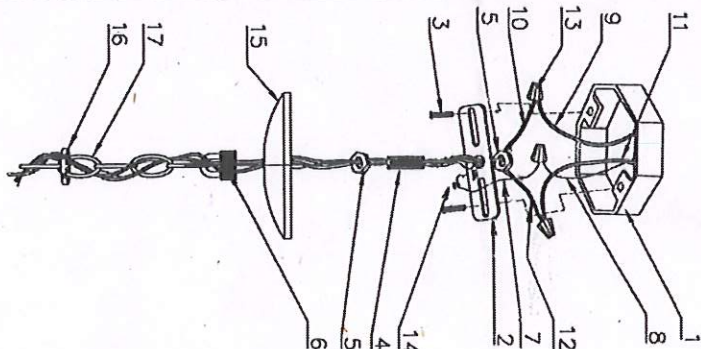

FIG. 1
1. Take the parts out of the mounting package. Screw the end of the NIPPLE (4) into the center hole of the MOUNTING BRACKET (2) and thread both 1/8" IPS HEX NUTS (5) several turns onto each end of the NIPPLE (4) but do not tighten the 1/8" IPS HEX NUTS (5). Pull the SUPPLY WIRES (9 & 11) and the SUPPLY GROUND WIRE (8) out from the OUTLET BOX (1) and attach the MOUNTING BRACKET (2) assembly to the OUTLET BOX (1) using the slotted holes of the MOUNTING BRACKET (2) and the MOUNTING SCREWS (3) provided. (See Fig. 1)
2. Thread the SCREW COLLAR LOOP (6) onto the bottom end of the NIPPLE (4). Place the CANOPY (15) over the OUTLET BOX (1) and adjust the SCREW COLLAR LOOP (6) and NIPPLE (4) until the midpoint of the outside threads on the SCREW COLLAR LOOP (6) is centered (aligned) with the surface of the CANOPY (15). Remove the CANOPY (15) and tighten both 1/8" IPS HEX NUTS (5) down on the MOUNTING BRACKET (2) and the SCREW COLLAR LOOP (6). (See Fig. 1)
3. Thread the FIXTURE LOOP (18) onto the NIPPLE (19) till tight. Thread the NIPPLE (26) onto the COUPLING (25), slide the PIPING (27), COVER (28), TOP RESIN FONT (29), JUNCTION BOX (30), COVER (32), BOTTOM RESIN FONT (33) over the NIPPLE (26) in place, secure with the FINAL (34).
4. Open up the end links of the CHAIN (17) and attach one end of the CHAIN (17) onto the FIXTURE LOOP (18). Slide the THREADED RING (16) and the CANOPY (15) onto the CHAIN (17) (in that order) and attach the other end of the CHAIN (17) to the SCREW COLLAR LOOP (6). Close the ends of the chain links. (See Fig. 1 and 2)
5. Unravel the fixture lead wires (10 and 12) and FIXTURE GROUND WIRE (7) and thread them through every other link of the CHAIN (17) starting with the chain link attached to the FIXTURE LOOP (18). Feed the fixture lead wires (10 and 12) and FIXTURE GROUND WIRE (7) through the SCREW COLLAR LOOP (6) and NIPPLE (4) assembly. Pull the fixture lead wire (10 and 12) and the FIXTURE GROUND WIRE (7) upward to remove any excess slack. (See Fig. 1)
6. Attach the power supply wires to the fixture lead wires by connecting the BLACK SUPPLY WIRE (9) to the SMOOTH FIXTURE LEAD WIRE (10) and the WHITE SUPPLY WIRE (11) to the RIBBED FIXTURE LEAD WIRE (12). Loop the FIXTURE GROUND WIRE (7) around the GROUND SCREW (14) of the MOUNTING BRACKET (2). (Note: Be sure to provide an extra 3" length of the GROUND WIRE (7)). Connect the remaining FIXTURE GROUND WIRE (7) to the SUPPLY GROUND WIRE (8) using a WIRE CONNECTOR (13). Place wiring and connections inside the OUTLET BOX (1). (See Fig. 1)
7. Slide the CANOPY (15) and the THREADED RING (16) up the CHAIN (17). Place the CANOPY (15) over the OUTLET BOX (1) and secure it in place by screwing the THREADED RING (16) onto the SCREW COLLAR LOOP (6). (See Fig. 1)
8. Attach the ARM (21) to the top & bottom JUNCTION BOXES (20 & 30), to have the nipple go through the hole at the top of the ARM (21), secure with the BALL NUT (22) and threading the NUT SCREW (31) into the junction box through the hole at the bottom of the ARM. Slide the CANDLE COVER (23) over the CANDLE (24).